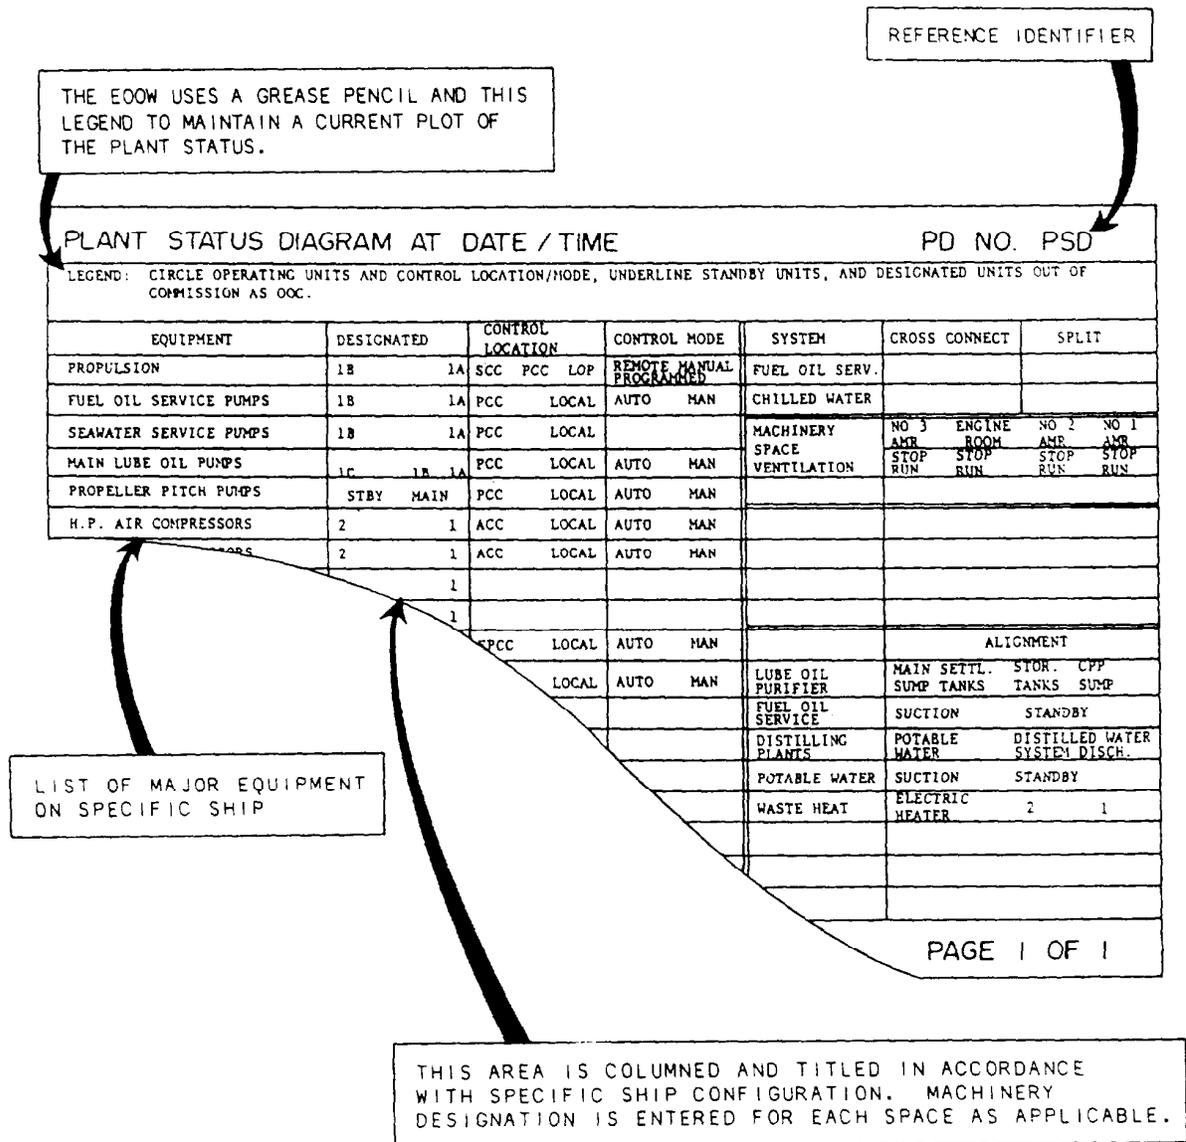

Figure 2-12.—Sample plant status diagram.
- Plant status diagrams (fig. 2-12) providing a systematic display of the major systems and cross-connect valves as well as a graphic presentation of the major equipment in each machinery space. These diagrams are used to maintain a current plot of systems' alignment and equipment operating status.